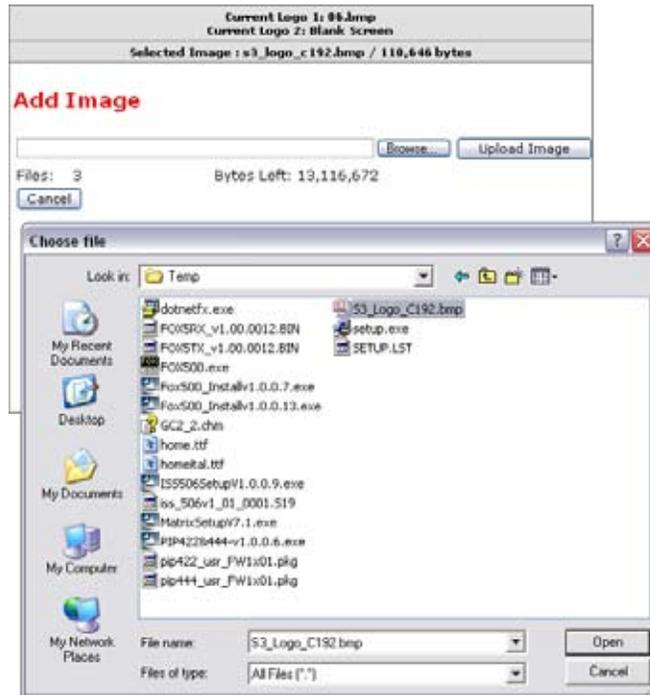

Figure 6-16 — Add Image field
1. Click the **Add** button. The center of the page becomes the Add Image field (figure 6-16).